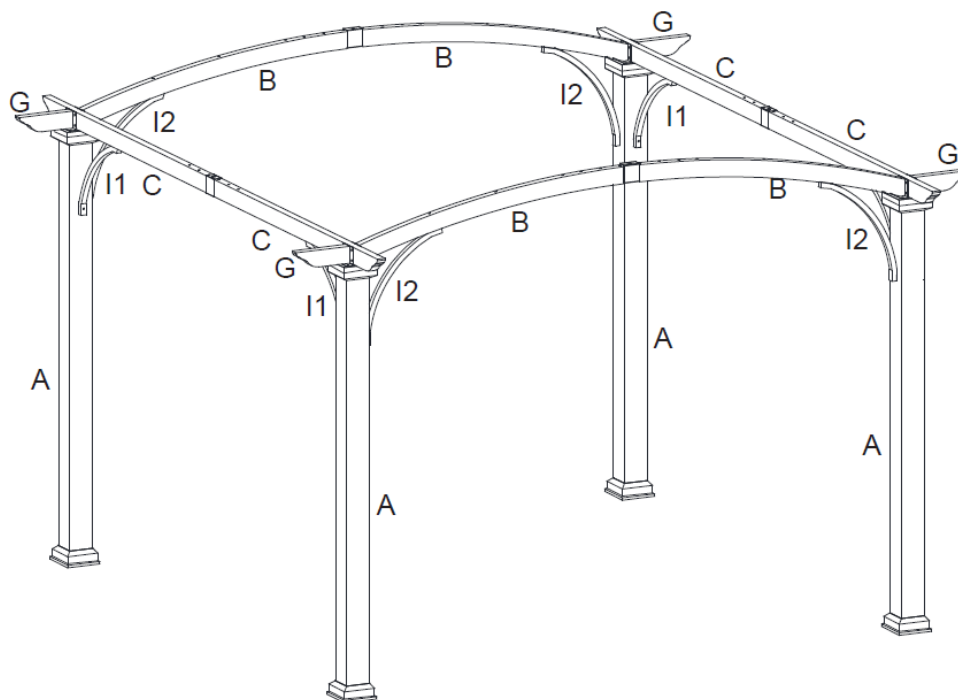

Figure 5-3
Step 5C: Repeat Step 5A and 5B for remaining corners. **Tighten Bolts** and attach Bolt Caps (U). See Figure 5-3.